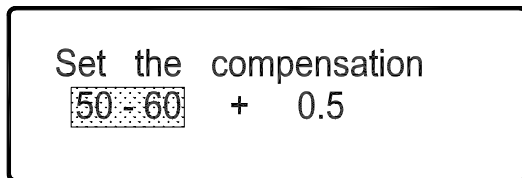

Figure 2
* Press “ ” and “ ” key to move cursor to the hardness scale needs to correct. For example: cursor has been moved to “HRC”, then press “ENTER” to confirm, and picture of figure 2 will be showed.